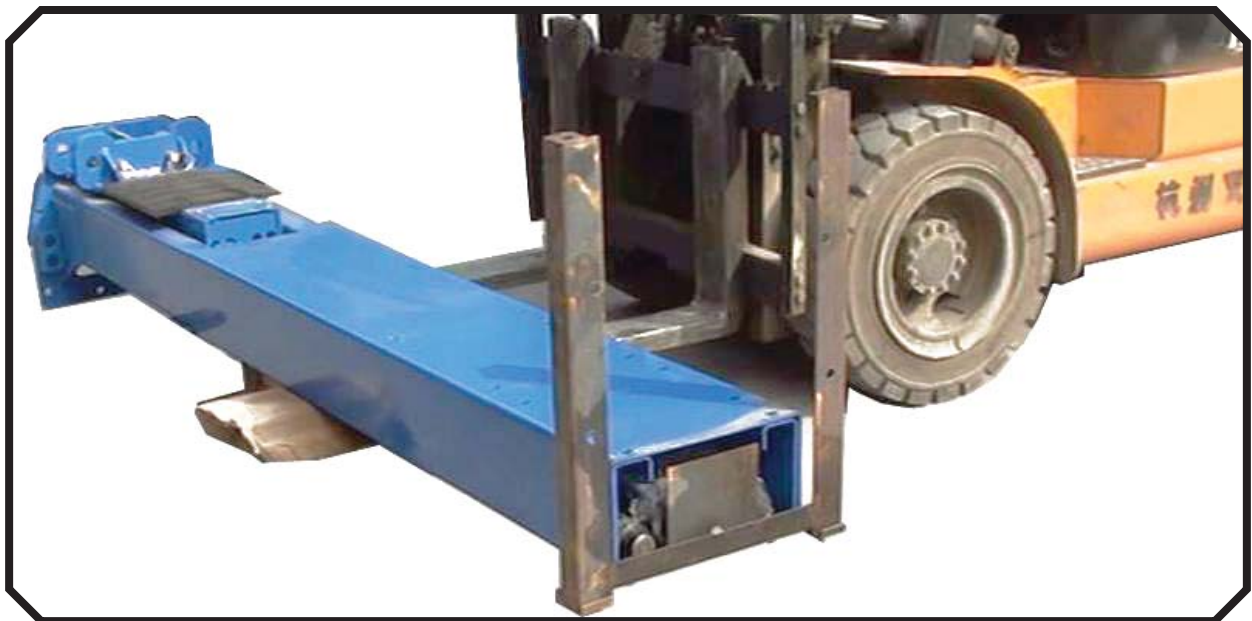

Fig. 10
5. Lift the lower column with a fork lift or hoist. Remove the package stand. Remove the lower column. Remove the parts in the inner column (**See Fig. 10**).